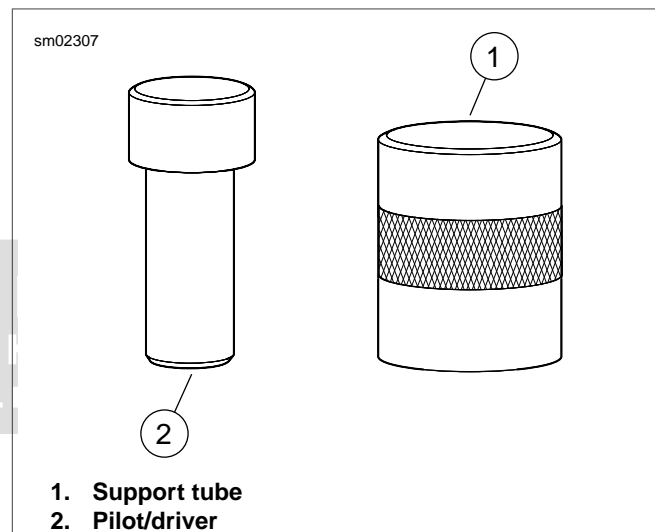

Figure 3-129. Left Main Bearing Remover and Installer Tools
See Figure 3-129. If the ram of the press is wider than the head of pilot/driver (2), a suitable press plug will be needed in order to remove the main bearing.
1. See Figure 3-129. Obtain CRANKCASE BEARING REMOVER/INSTALLER (Part No. B-45655) and CRANKCASE BEARING REMOVER/INSTALLER BASE (Part No. HD-42720-5).